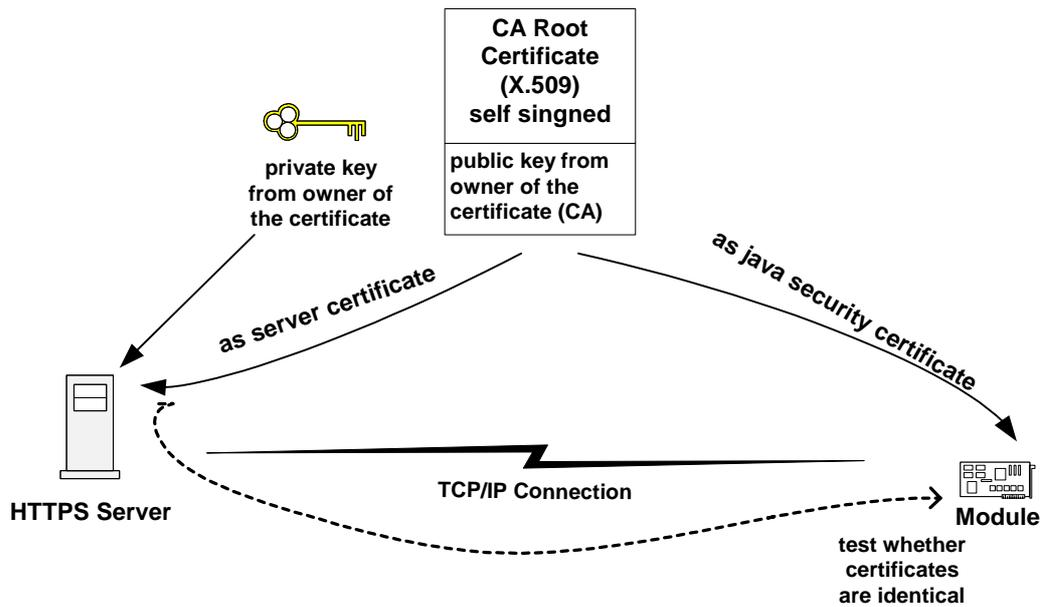
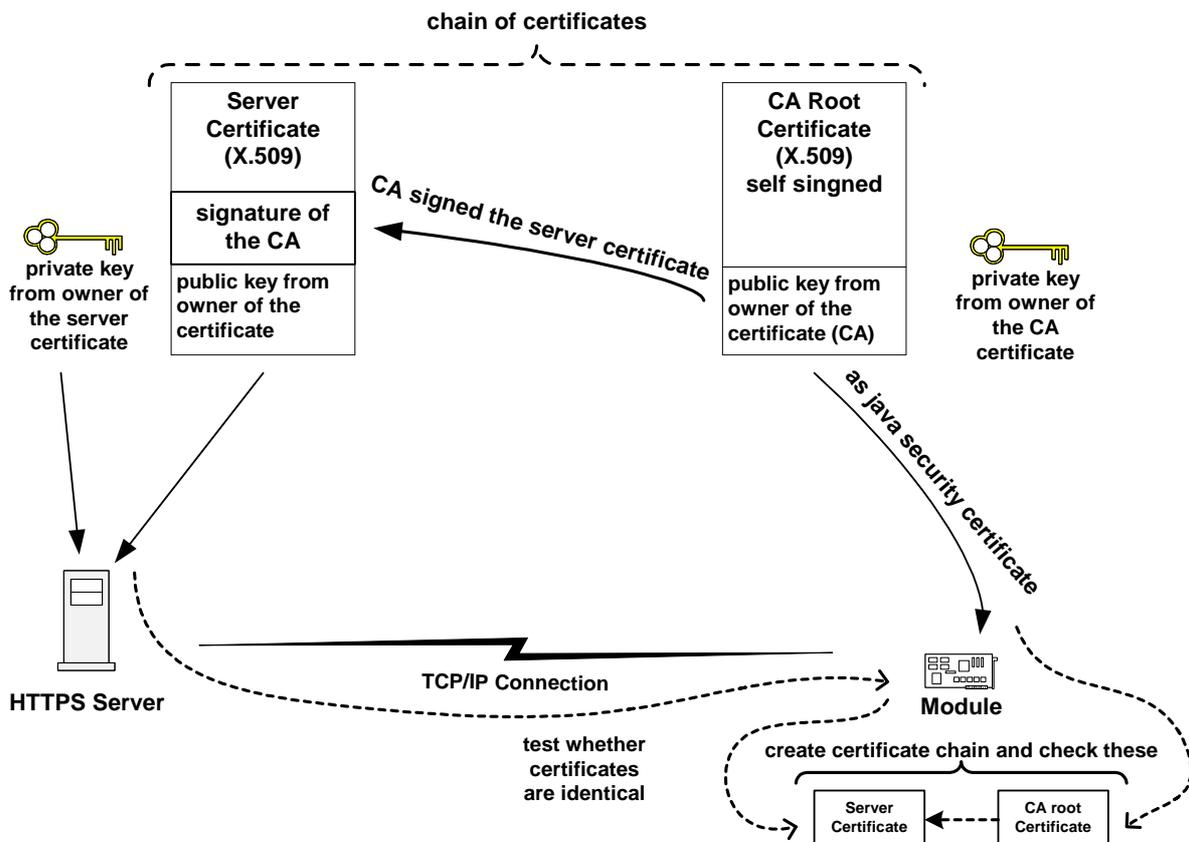

Figure 41: Mode 2 - Java Security activated (server certificate = certificate into module)
Figure 42: Mode 2 - Java Security activated (server certificate and self signed root certificate in module form a chain)
- The server certificate is examined when setting up a connection. Two configurations are valid. The server certificate is identical to the certificate in the module (both certificates are self signed root certificates) or the server certificate forms a chain with the certificate of the module. Thus the authenticity of the server certificate can be examined with the help of the certificate of the module. (Figure 41: Mode 2 - Java Security activated and Figure 42: Mode 2 - Java Security activated)